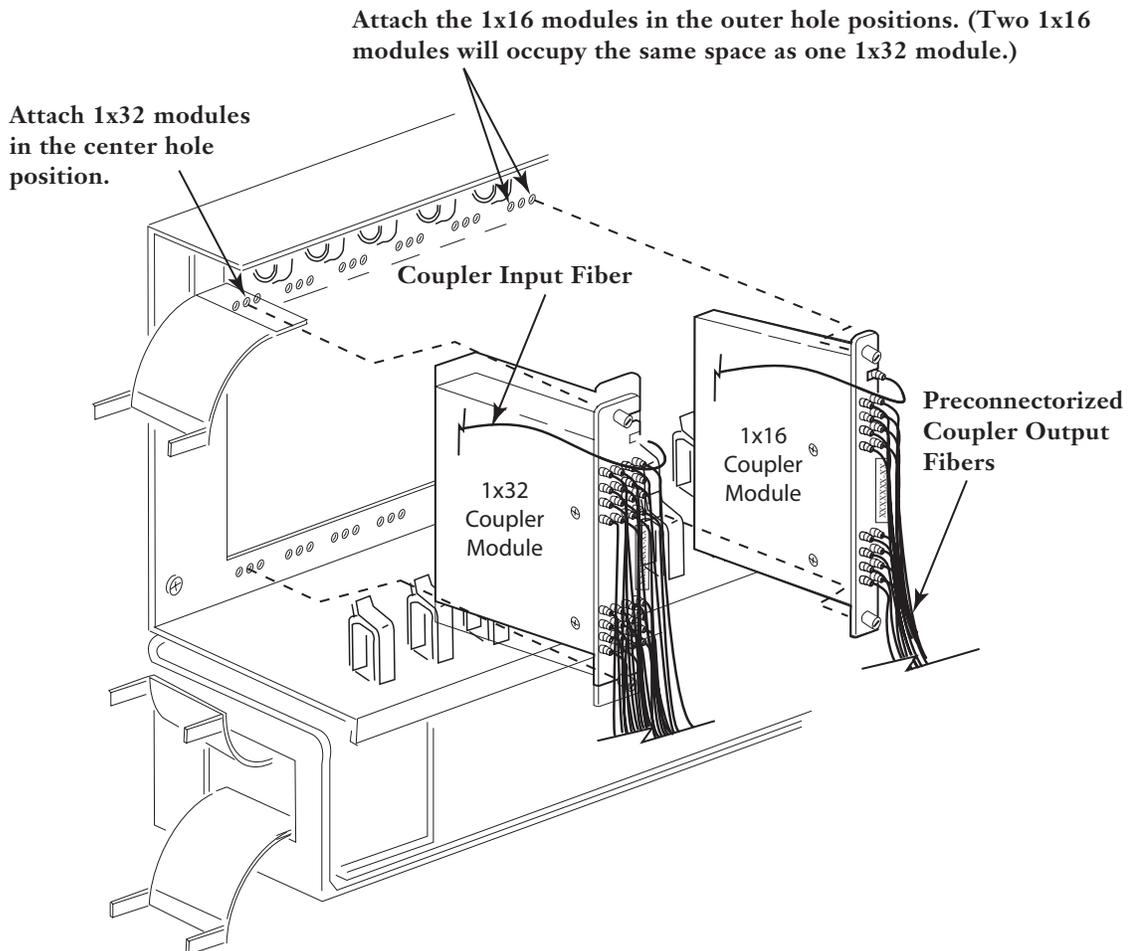

Figure 10 — Secure Coupler Module in Storage Area
- Step 1** Remove coupler modules from their packaging and place each coupler module in the cabinet in the location shown in Figure 10. Note that two 1x16 modules occupy the same width as one 1x32 module.